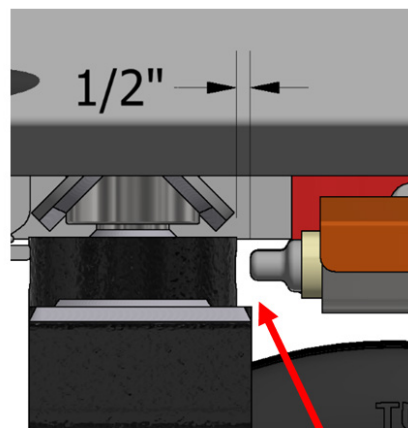

Fig. 2
- The cylinder is to be set at 1/2" inch from the end of the plunger to the edge of the yoke. Fig. 2 *Turn the tire so the hole is facing away from the cylinder shaft and use a 1/2" rod or bolt between the yoke and cylinder shaft.*